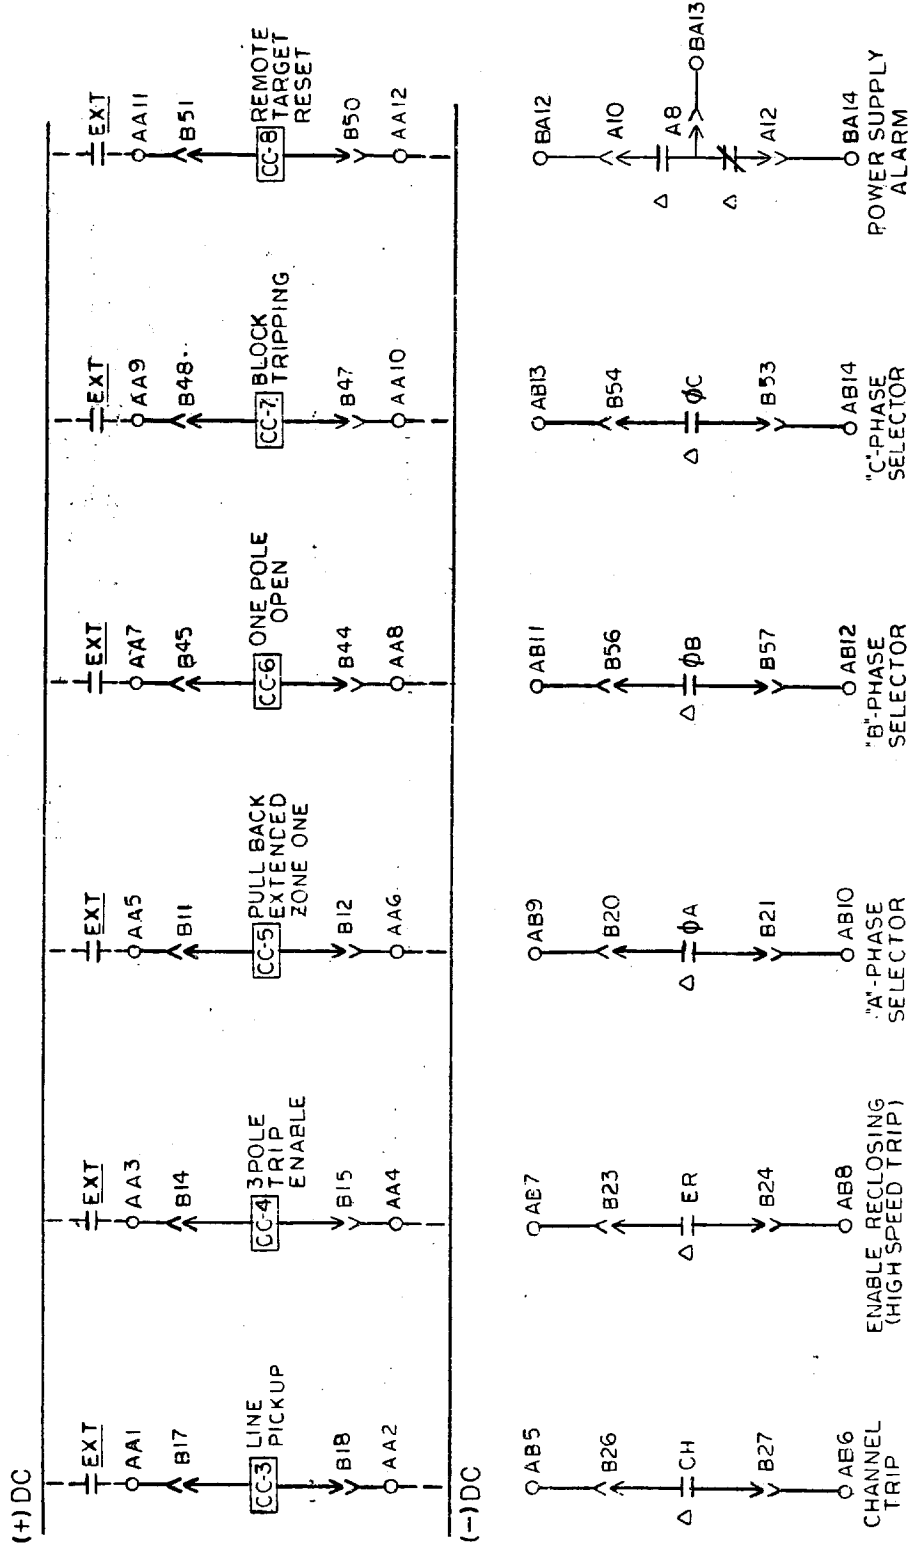

Fig. 3E (0138B7775, Sh. 5, Rev. 2) Elementary Diagram - Contact Converters and Auxiliary Contacts
- Fig. 3E (0138B7775, Sh. 5, Rev. 1) Elementary Diagram - Contact Converters and Auxiliary Contacts